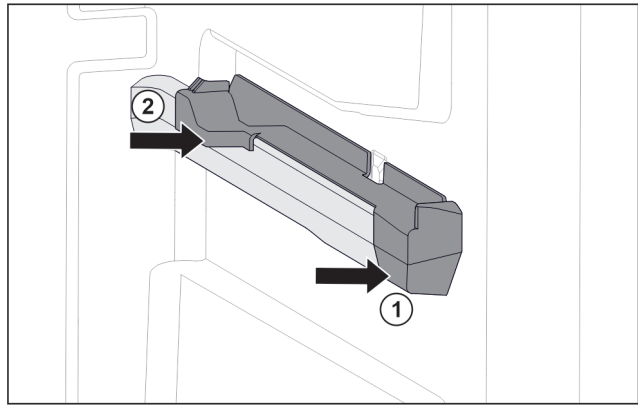

Fig. 47 Attachment on the right molded rib
- ▶ Position attachment on molded rib at the front. Fig. 47 (1)
- ▶ Press on attachment at the back. Fig. 47 (2)